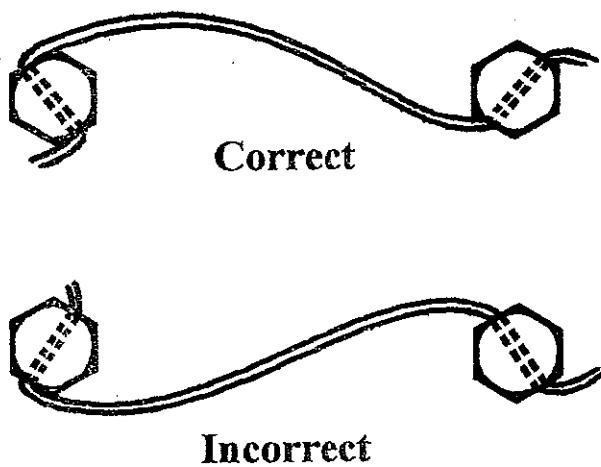

Figure 1 - Wire Locking Method
3. All speedo generators are to be secured to the adaptor plate using 7/16 in BSF x 1 1/4 in long ECP 'R' grade set screws drilled with two 5/64 in diameter holes through the head for locking purposes. These are to be torque tightened and wire locked as shown in Figures 1 and 2.